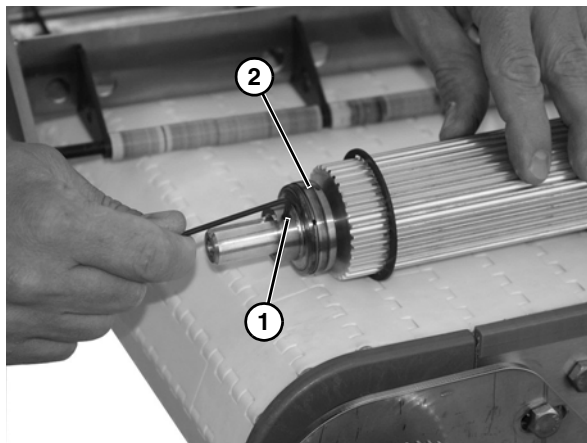

Figure 39
6. Loosen set screws (**Figure 39, item 1**) from bearing (**Figure 39, item 2**).